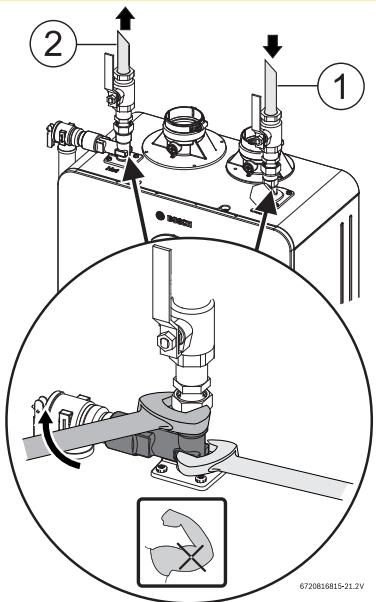

Fig. 28
- Tighten all water connections with the support of a wrench, see Fig. 28.